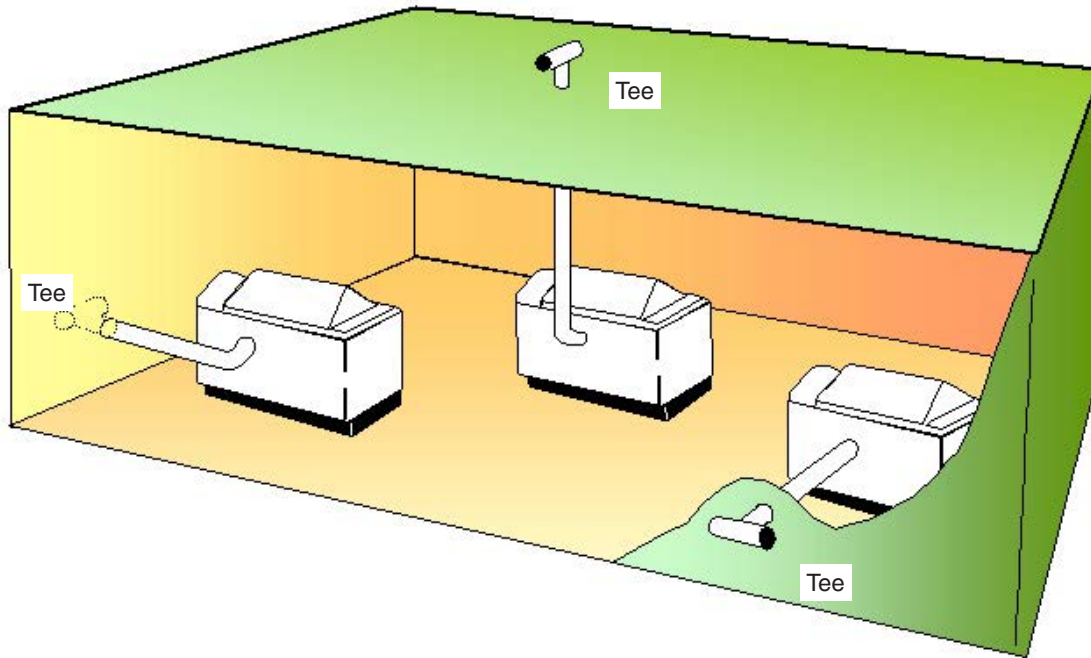

Figure 5.9e: Recommended venting.
- A "tee" is recommended at the end of the vent to reduce the risk of periodic back-pressure from the wind (Figure 5.9e).